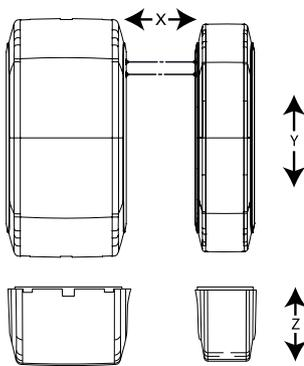
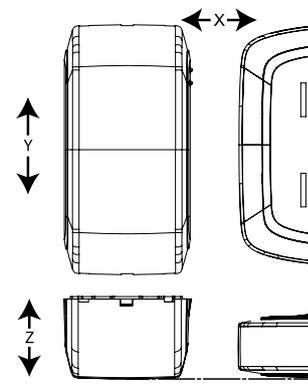

Figure 9: Range coverage directions
Figure 10: Range coverage directions (with perpendicular magnet)
Note: The magnet can be mounted parallel or perpendicular to the device. Ensure the magnet and device sensor markings align, depending on the magnet orientation. See Figure 9 or 10.
- Y (up) refers to the upper half of the Y plane and Y (down) refers to the bottom half of the device on the Y plane. See Figure 9 and 10.
- When mounting the magnet perpendicular to the device, align the magnet with the face of the device. See Z plane illustration in Figure 10.
- During the anti-mask calibration process, align the magnet with the device decorative cover. See Figure 9 for a parallel magnet installation. See Figure 10 for a perpendicular magnet installation.